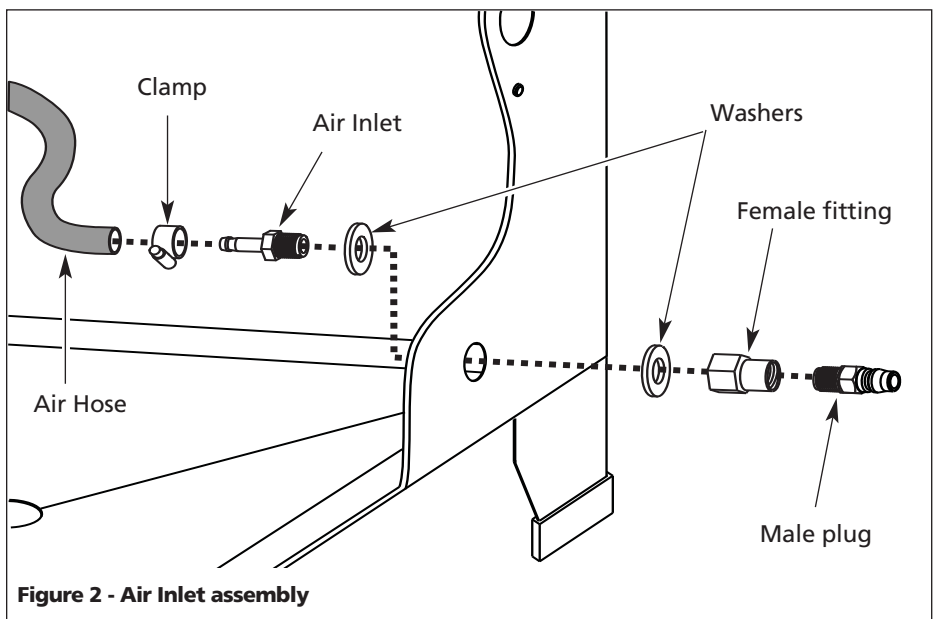

Figure 2 - Air Inlet assembly
- Place gun and hose assemblies into cabinet, feeding diptube under the wire mesh parts tray. Place a washer on threaded end of cabinet inlet fitting, then push fitting through the hole on the lower right side of cabinet. Place other washer on the protruding end of the fitting (see Figure 2).
- Apply PTFE thread sealant tape to the threads of the inlet fitting to reduce the possibility of air leaks. Thread the female fitting onto the protruding threads of the cabinet inlet fitting and tighten securely. Make sure the wrench flats of the female fitting abut the cabinet (see Figure 2).